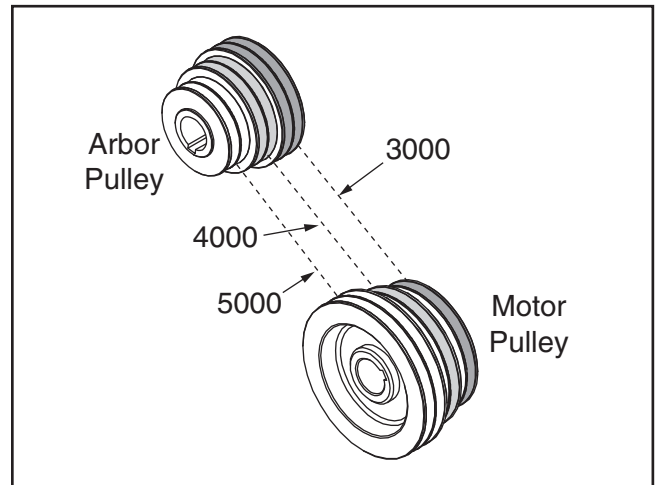

Figure 87. Belt positions for each speed.
5. Position belt on correct arbor and motor pulley set for desired speed (refer to **Figure 87** for pulley identification).